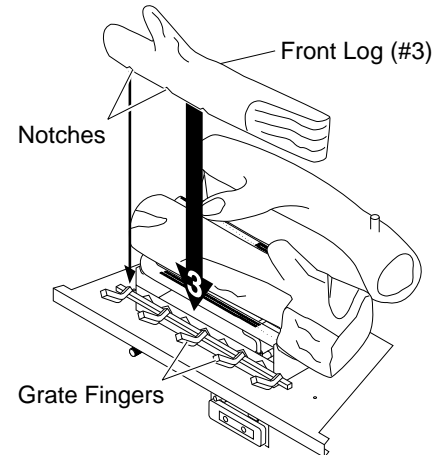

Figure 45 - Installing Front Log (#3)
3. Locate the notches in the bottom of the front log (#3). Place the front log on the grate fingers. Make sure the notches of the front log line up with the grate fingers (see Figure 45).